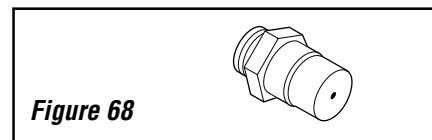

Figure 68
A. Remove the two orifices from the manifold and replace them with the ones provided in the kit. The following table shows the orifice sizes for natural and propane models. **Figure 68** illustrates the orifice.